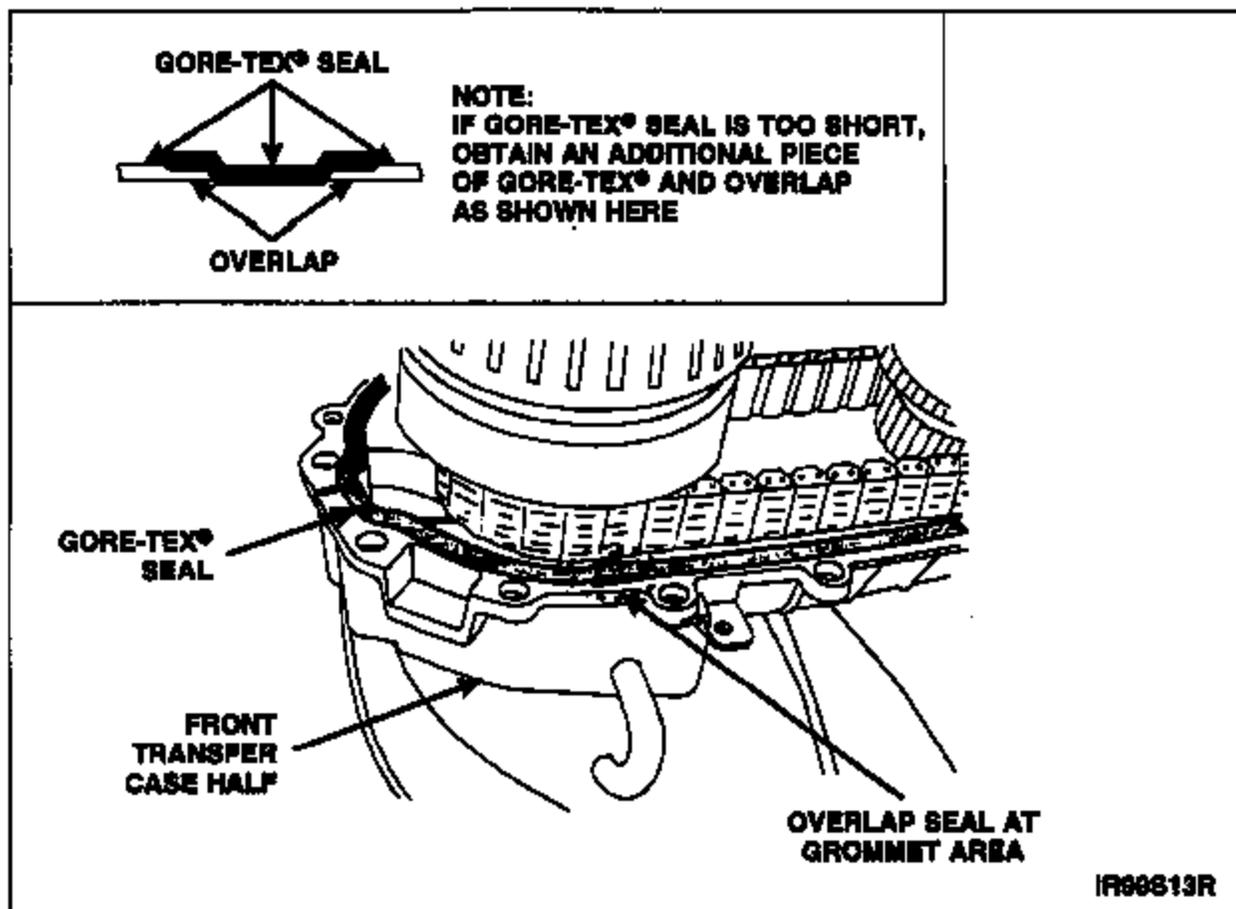

FIGURE 18
- Using supplied 42 inch Gore-Tex® seal, start applying the seal at the wiring harness grommet location, peel the release paper from the adhesive strip and form the seal on the transfer case half. Overlap the seal at the grommet area. See Figure 18. Place the seal in the center of the sealing surface.